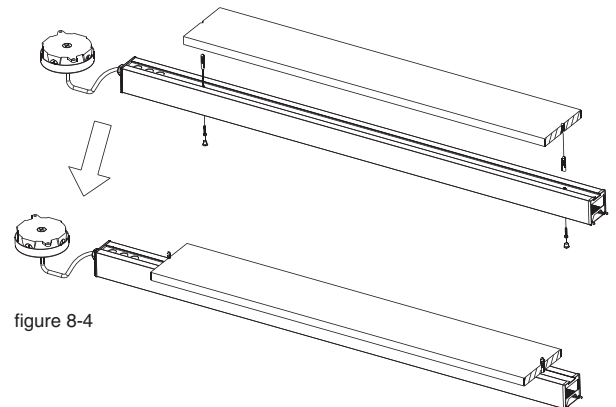

figure 8-4
- f. Hold the fixture up to the spot on the ceiling where you would like to mount it, and use the 2 expansion bolts in the recesses of the fixture in the figure shown to mount it to the ceiling. **Fig 8-4.**